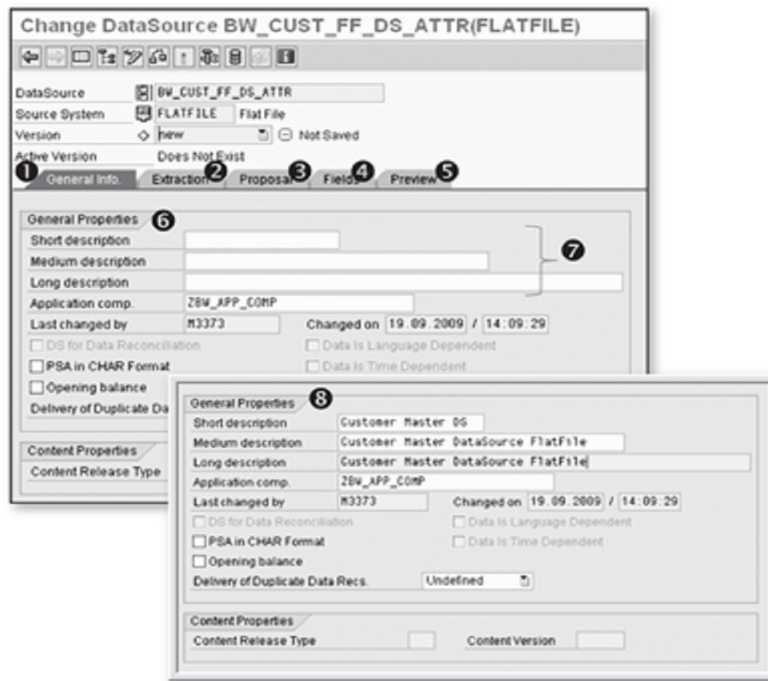
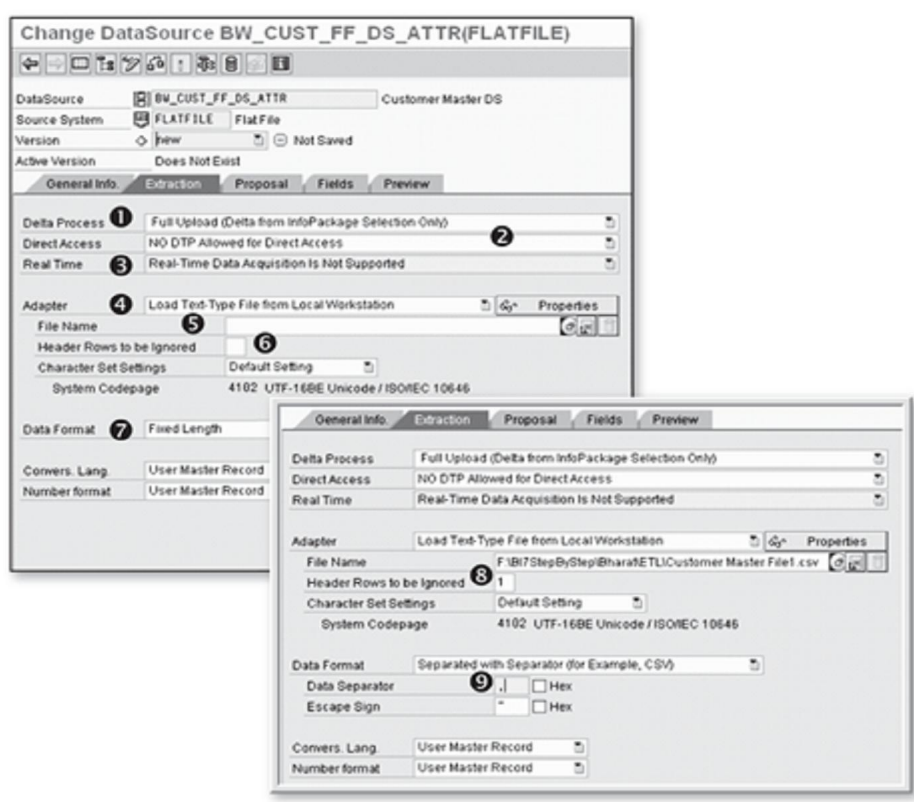

Figure 7.10 Create DataSource for Flat File: General Info
Figure 7.11 Create DataSource: Extraction Tab
The Extraction tab (2 of Figure 7.10) allows you to configure the delta process, type of access, and real-time access you want to set for your DataSource (1, 2, and 3 of Figure 7.11). Provide the actual name of the file, its location, and its type in the Adapter and File Name fields (4 and 5). We explain all major configuration settings in this tab next.
This field describes all of the capabilities and restrictions of a DataSource. For flat file source systems, SAP NetWeaver BW offers three different types of delta processes: Full Upload (Delta from InfoPackage Selection Only), FILO (Delta Data with After Images), and FILE1 (Delta Data with Delta Images). Our example DataSource isn't supplying delta records, so choose Full Upload (1 of Figure 7.11).
There are two options for configuring the DataSources with direct access: NO DTP Allowed for Direct Access (the default option) and Allowed, which is relevant when you plan to configure a VirtualProvider based on this DataSource (see Chapter 6, InfoProviders, for more information about VirtualProviders). Most DataSources aren't capable of supporting direct access; also, the default setting for a DataSource for a flat file source system is NO DTP Allowed for Direct Access; choose this default option, as shown in ❷ of Figure 7.11.
SAP NetWeaver BW allows you to access real-time data from the source system, a process handled by running a *daemon*. Because the DataSources based on flat files don't support real-time extraction, the field is uneditable (❸ of Figure 7.11).
In our example, the file is available on a local workstation in CSV format, so we select Load Text-Type File from Local Workstation (❹ of Figure 7.11). When the file location is selected as a local workstation, you can't schedule the background job. To use background processing (and the process chain tool), the file must be located on the application server.
After you decide on the type of adapter, select the name and location of the physical file in which your data is available using the dropdown list (❺ of Figure 7.11). After you select a location, a full directory path is displayed (❻).
this, click on the Create Routine for File Name icon (E), which opens up the ABAP editor. Type "logic" in the ABAP editor to arrive at the file name dynamically. In our example, we hard-code the file name as shown in 8 of Figure 7.11.
Figure 7.12 shows the sample data from the customer master file that we want to load into SAP NetWeaver BW. To eliminate confusion, it's always better to identify each column in the file using a column heading, as shown in Figure 7.12; however, these column headings don't become part of the customer master data, so you don't have to load the first row of this file. Indicate this by giving the number of the header rows to be ignored, as shown in 9 of Figure 7.11.
As previously mentioned, text files can have two different formats, CSV and ASCII, and you must indicate the appropriate format in the Data Format field (refer to 7 of Figure 7.11). By default, this field is filled with the Fixed Length (or ASCII) option. However, because our example data is stored in CSV format, we change this using the dropdown list (refer to 9 of Figure 7.11).
CSV format allows you to select your own separator (commas, semicolons, etc.) when creating the CSV file, and you must indicate what you've chosen in the Data Separator field (refer to 9 of Figure 7.11). In our example, we use the comma.